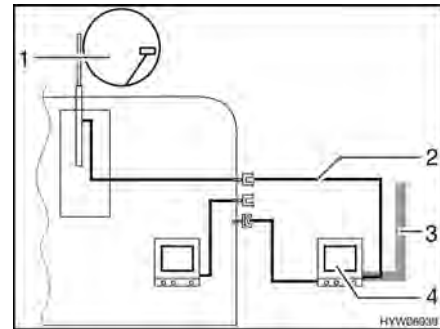

Fig. 109 TV in the awning
- TV inside the awning (Fig. 109,4): Connection to roof antenna (Fig. 109,1) with connection cable (Fig. 109,2)
- TV inside the awning (Fig. 109,4): Connection to external antenna (Fig. 109,3)